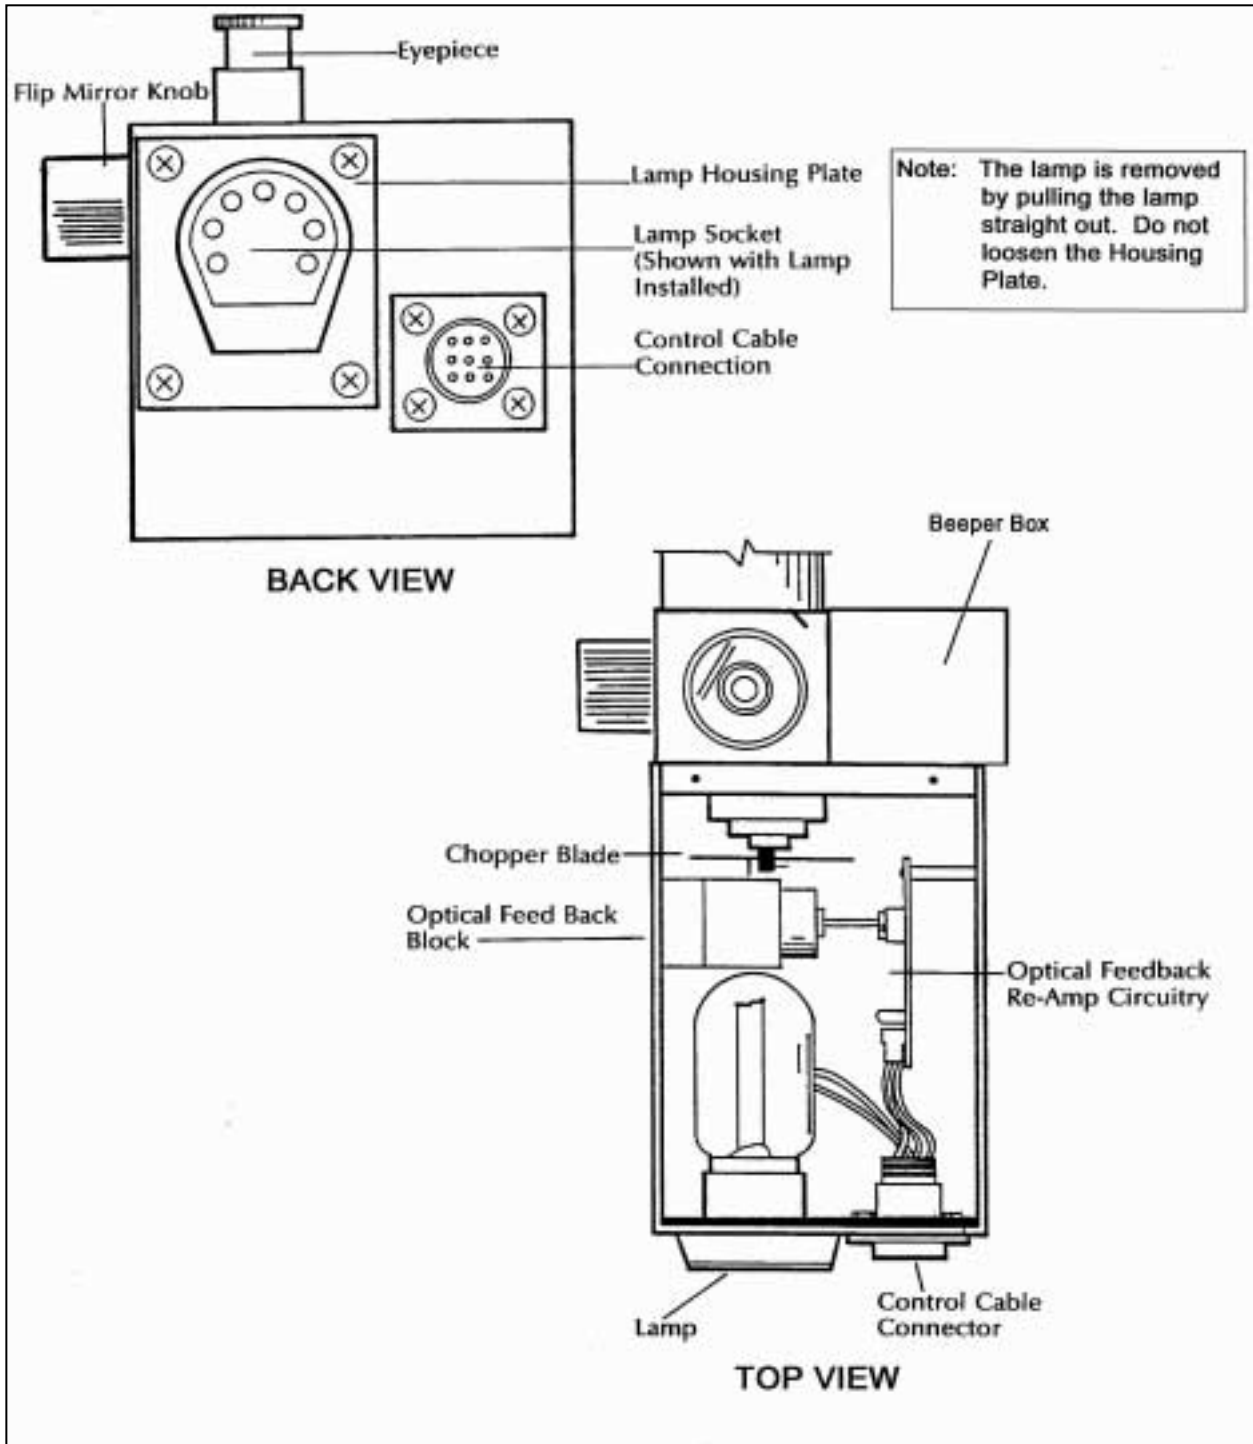

Figure 4-3. Transmitter Lamp Chamber.
- Verify that the chopper blade (slotted disk) is still mounted on the motor shaft and is rotating (see Figure 4-3, Transmitter Lamp Chamber).